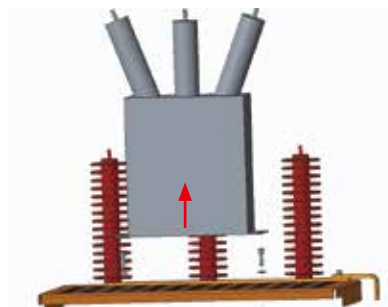

Figure 7.10: Remove surge capacitor
- Remove the surge capacitor (See figure 7.10)